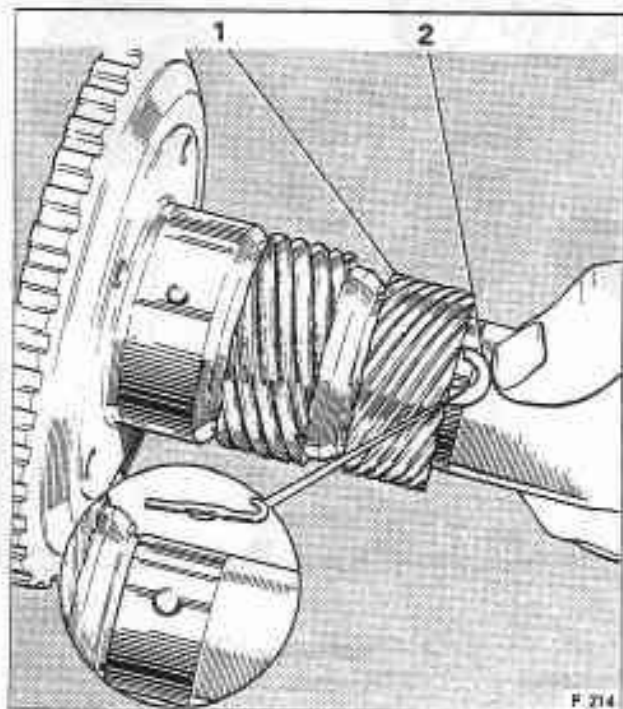

Fig. T20-8 Removing a nylon speedometer drive gear
1. If a **nylon gear** is fitted to the shaft, depress the retaining clip and slide the gear off the output shaft (see fig. T20-8).